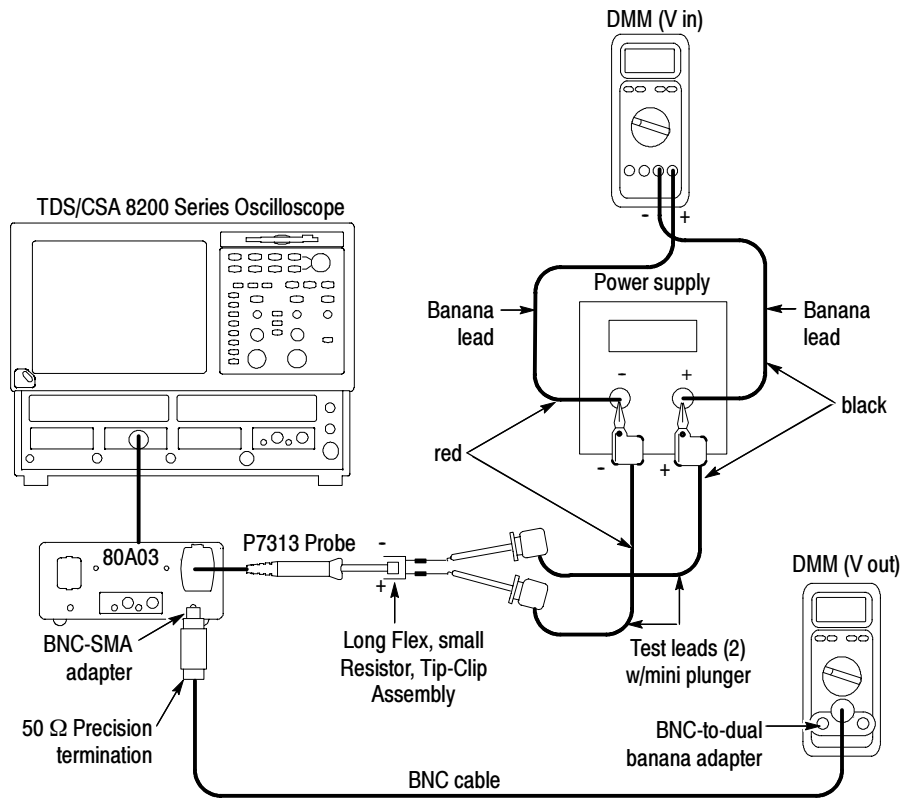

Figure 12: Reverse the power supply polarity on the probe inputs
6. Reverse the polarity of the voltage applied to the probe inputs by swapping both sets of banana leads at the power supplies, as shown in Figure 12.